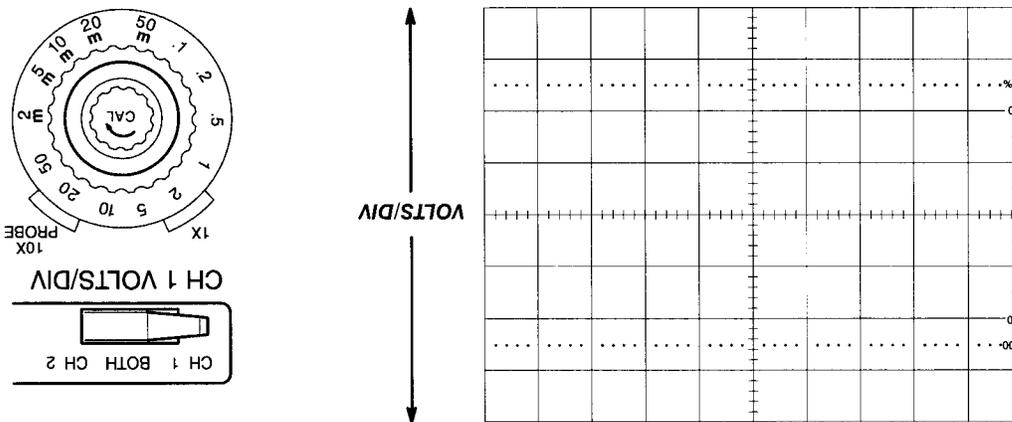

Figure 3-3: Vertical Display Controls
Step 3: Set the vertical scale (or attenuation factor) for the display by turning the volts/division knob of the selected channel (Figure 3-3). Choose a setting that is several times higher than the amplitude of the signal. This will keep the display from going off screen.